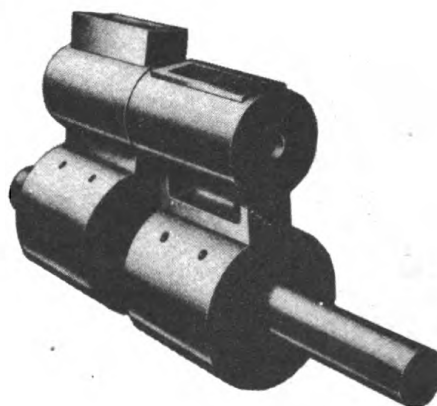

FIGURE 232
- (1) Stop pump immediately.
- (2) Pump may not be primed and should be filled on the discharge side.
- (3) Leakage or opening in suction line permitting air.
- (4) Pistons installed wrong (see figure 232).
- (2) Pump may be worn if long in service.
- (3) Valves partly closed on suction side or the suction in the suction line.
- (4) Pistons installed improperly. (Refer to figure 232)
- (5) Vaporization of liquid in suction due to high temperature.
- (6) Air or gas pockets in the suction line.